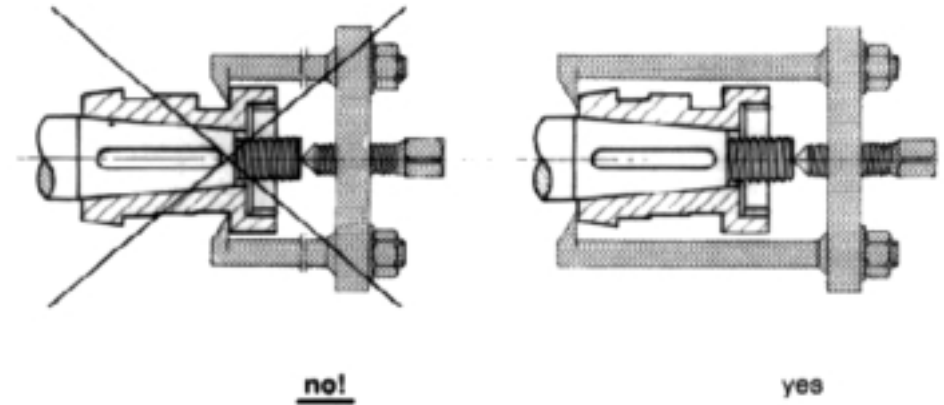

Fig. 9
7) **PROPELLER REMOVAL:** In order to remove the propeller you must first remove the spinner and nut. Be sure only to pull from outside the hub (figure 9). If the surfaces on the hub are hit or dinged it can effect the performance of the propeller.